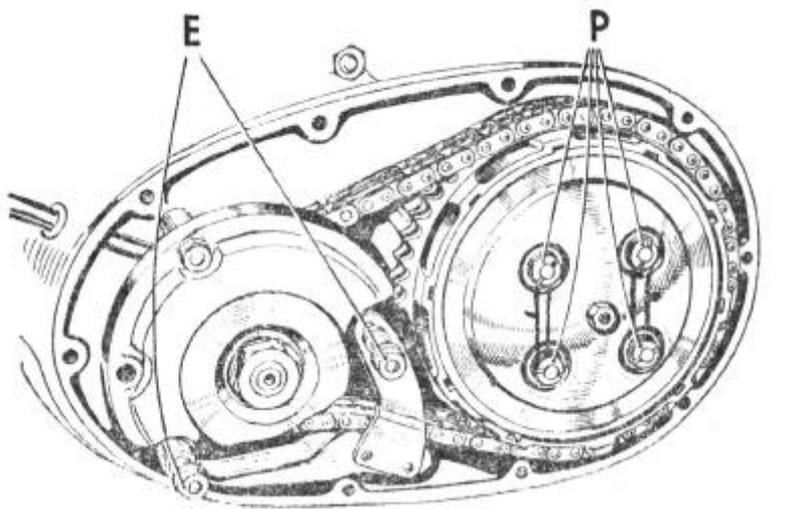

FIGURE 20. The primary chain and clutch
When the two lower generator retaining nuts (E) Fig. 20 are slackened, the position of the slipper can be altered to give the correct tension.
Whenever the clutch has been dismantled, the spring pressure must be reset carefully. The four retaining nuts (P) Fig. 20, should be screwed in until the underside of the head of each nut is approximately 1/16" from the face of a spring cup. The figure is an arbitrary one and it is a simple matter to vary it according to circumstances. If the springs are compressed excessively the handlebar lever will be stiff to operate and tiring to the hand; alternatively, if the spring pressure is insufficient, the clutch will tend to slip.